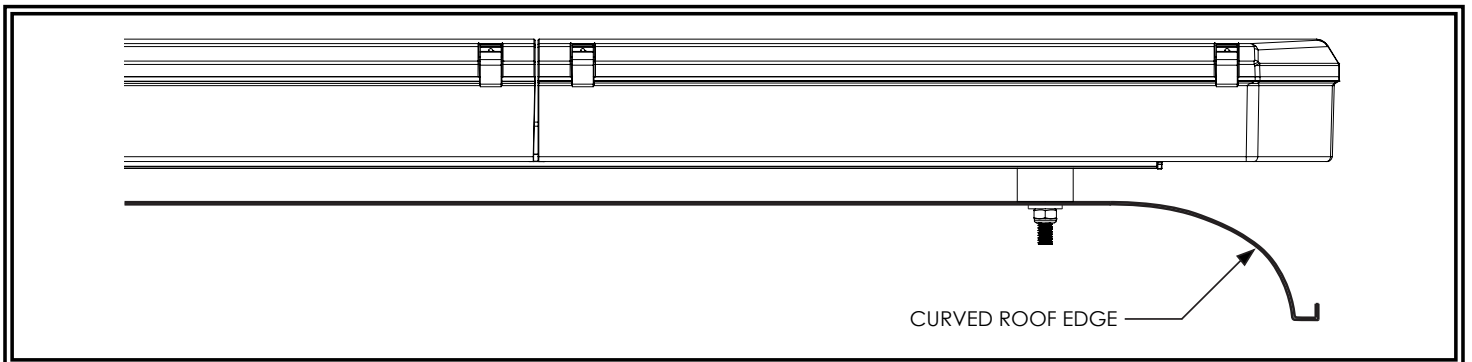

FIGURE 4
2. Place the lightbar over the center of the vehicle and slide the mounting hardware into position near the curved edge when possible as shown in FIGURE 4.